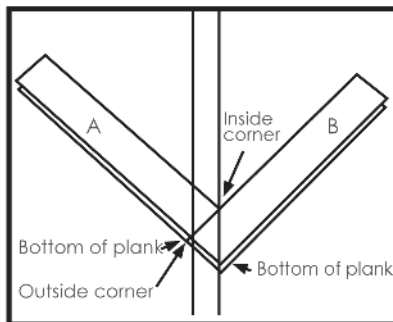

Fig 5.
- This is your starting angle. Note: 5 mm spacers are required at all walls or vertical abutments (Fig 5.). Line up the outside corner edge of the plank on the "A" plank with the inside corner on the opposite line (position A & B as below).